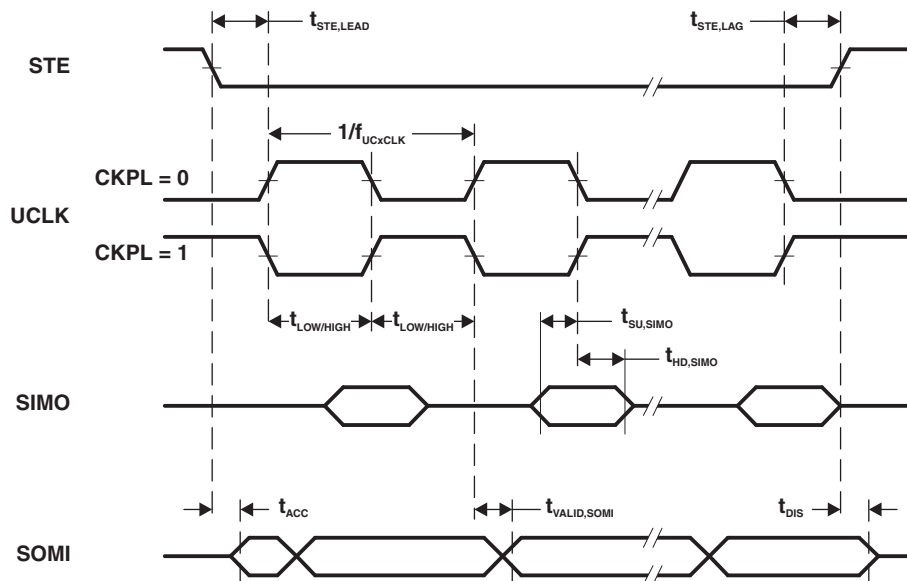
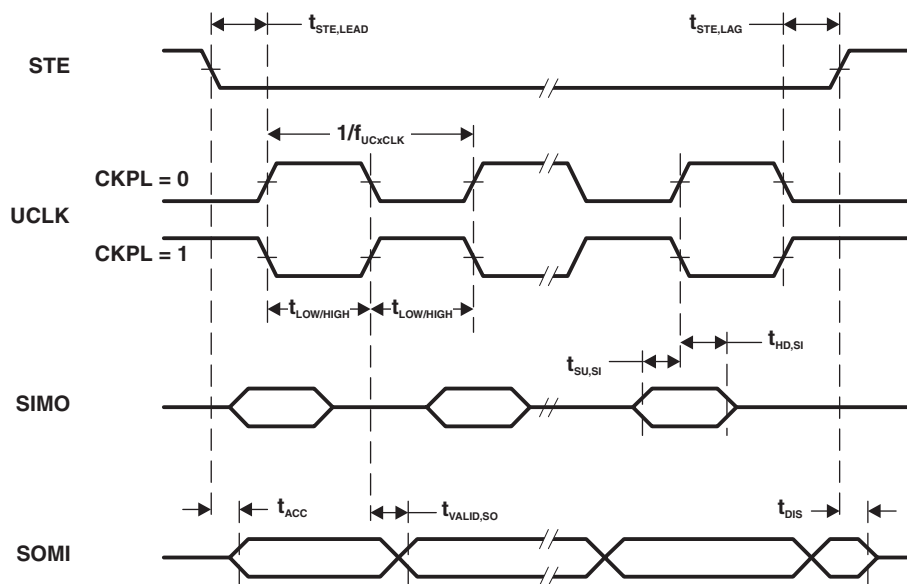

Figure 5-12. SPI Slave Mode, CKPH = 0
Figure 5-13. SPI Slave Mode, CKPH = 1
(1) $f_{UCxCLK} = 1/2t_{LO/HI}$ with $t_{LO/HI} \geq \max(t_{VALID,MO(Master)} + t_{SU,SI(eUSCI)}, t_{SU,MI(Master)} + t_{VALID,SO(eUSCI)})$.For the master parameters $t_{SU,MI(Master)}$ and $t_{VALID,MO(Master)}$ refer to the SPI parameters of the attached slave.(2) Specifies the time to drive the next valid data to the SOMI output after the output changing UCLK clock edge. Refer to the timing diagrams in Figure 5-12 and Figure 5-13.(3) Specifies how long data on the SOMI output is valid after the output changing UCLK clock edge. Refer to the timing diagrams in Figure 5-12 and Figure 5-13.